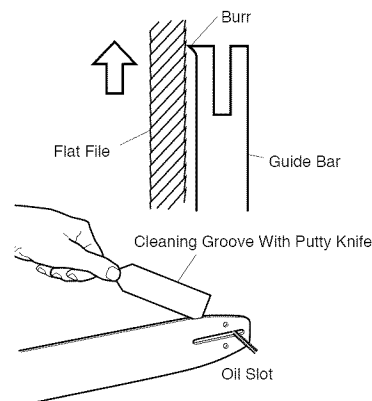

Figure 13 - Guide Bar Maintenance
2. Remove sawdust from guide bar groove periodically. Use putty knife or wire (see Figure 13).